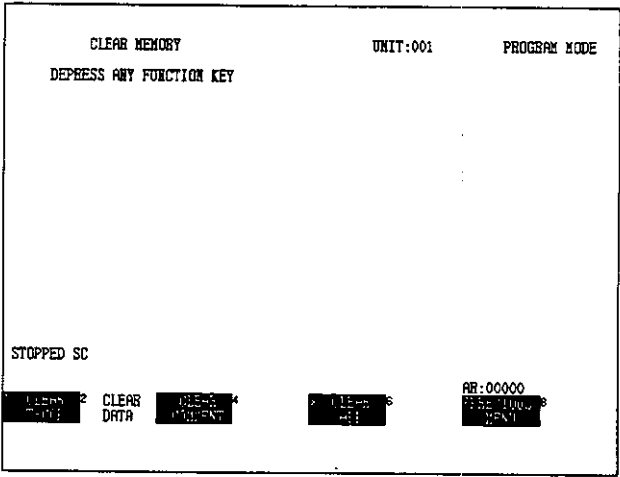
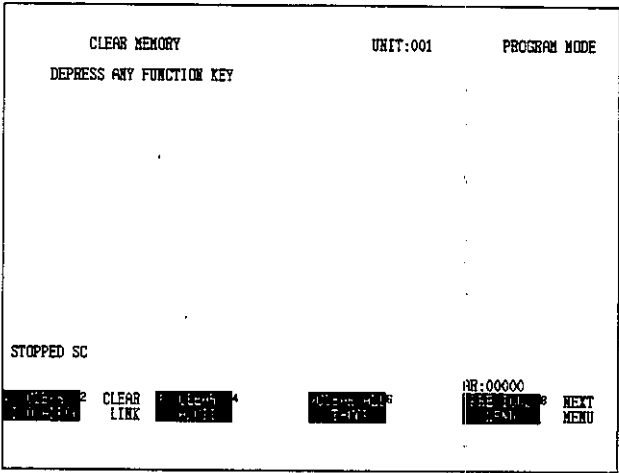

Figure 6.21
Figure 6.22
6) Select Clear T-Cop (Traffic Cop). The screen shown in Figure 6.22 will be displayed.
(2) To clear all memories at the same time, select Clear All as shown in *Figure 6.21*.
(3) Selecting Previous Menu as shown in *Figure 6.22* returns the screen to *Figure 6.21*.
(4) Select Confirm and the selected memory will be cleared. If Cancel is selected instead of Confirm, no operation will be carried out and the screen will return to the one from which the Clear request was made.
(5) See *Appendix A.2 Operational Messages* for information on the messages displayed.